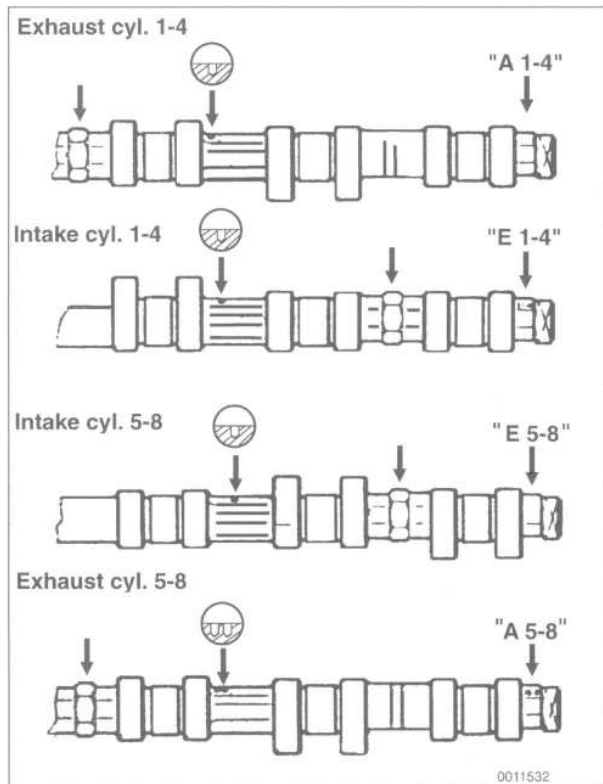

Fig. 34. Camshaft identification markings in M60 engine. Note that all markings face up with camshaft at TDC.
- Similarly, camshafts are marked with a code letter and cylinder number. For example, "E1-4" is the intake camshaft cylinders 1 through 4. See Fig. 34 and **Table c** for a listing of camshaft identification markings.